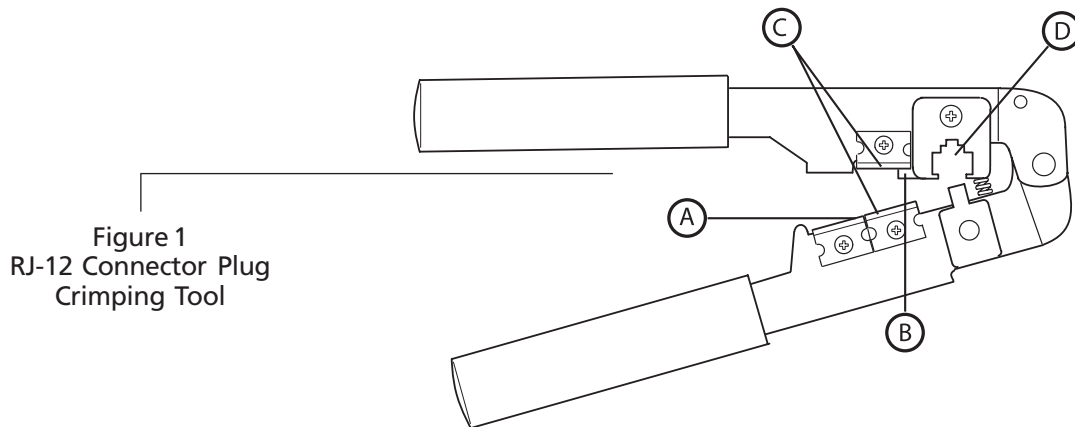

Figure 2
5. The stripped insulation should expose approximately 3/16" of wire (figure 2).